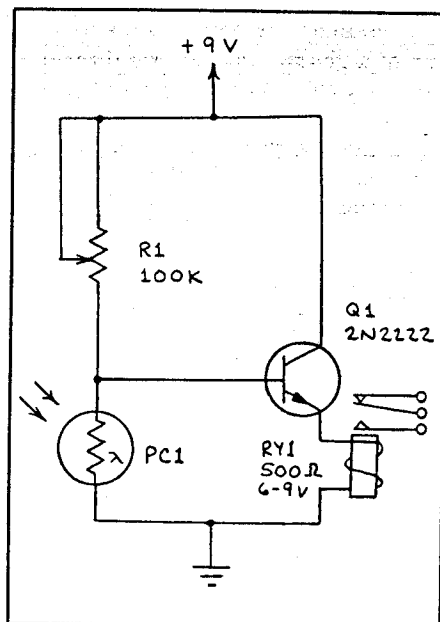

Fig. 11. A dark-activated relay.
• **Dark-Activated Relay.** The Fig. 11 circuit is the opposite of the previous circuit. When  $PC1$  is illuminated in this circuit, the relay is *not* actuated. Only when the light level on  $PC1$  falls below a certain point, determined by the setting of